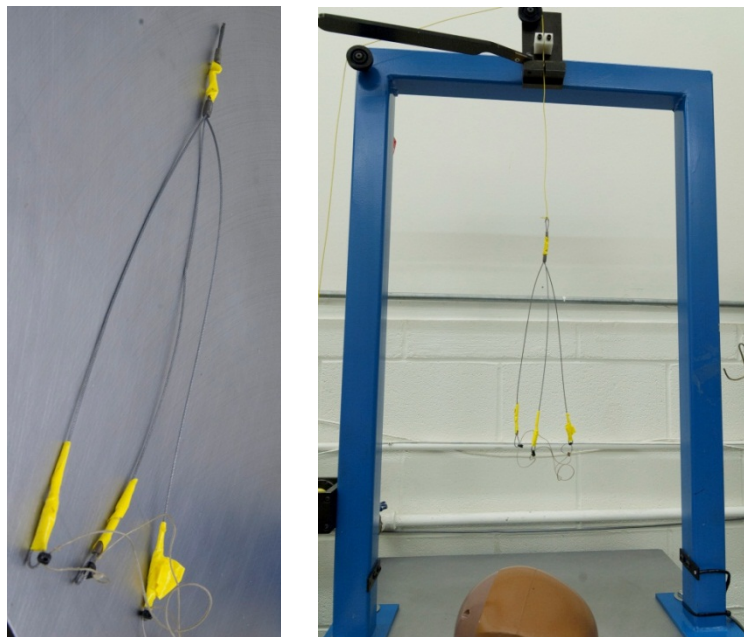

Figure 5. Cable harness setup for suspending head
- Suspend the cable harness system for holding the head during testing (Figure 5).